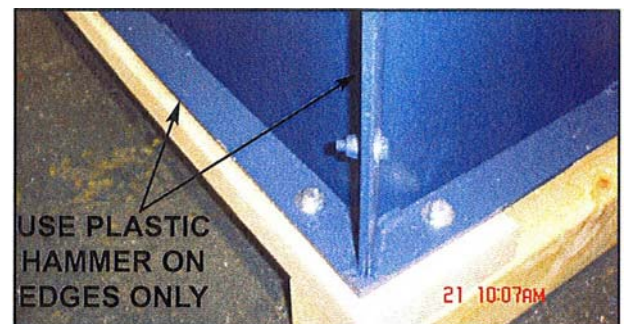

Figure 5
5. If you need to push unit, push only on edges or use a block of wood on the bottom frame to tap unit into place. Don't push on face of sheet metal panels. See Figure 5.